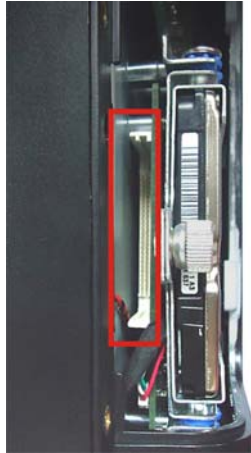

Figure 4-7: CF Card Slot Location
Step 3: The CF card slot is located underneath the HDD bracket. (**Figure 4-7**).